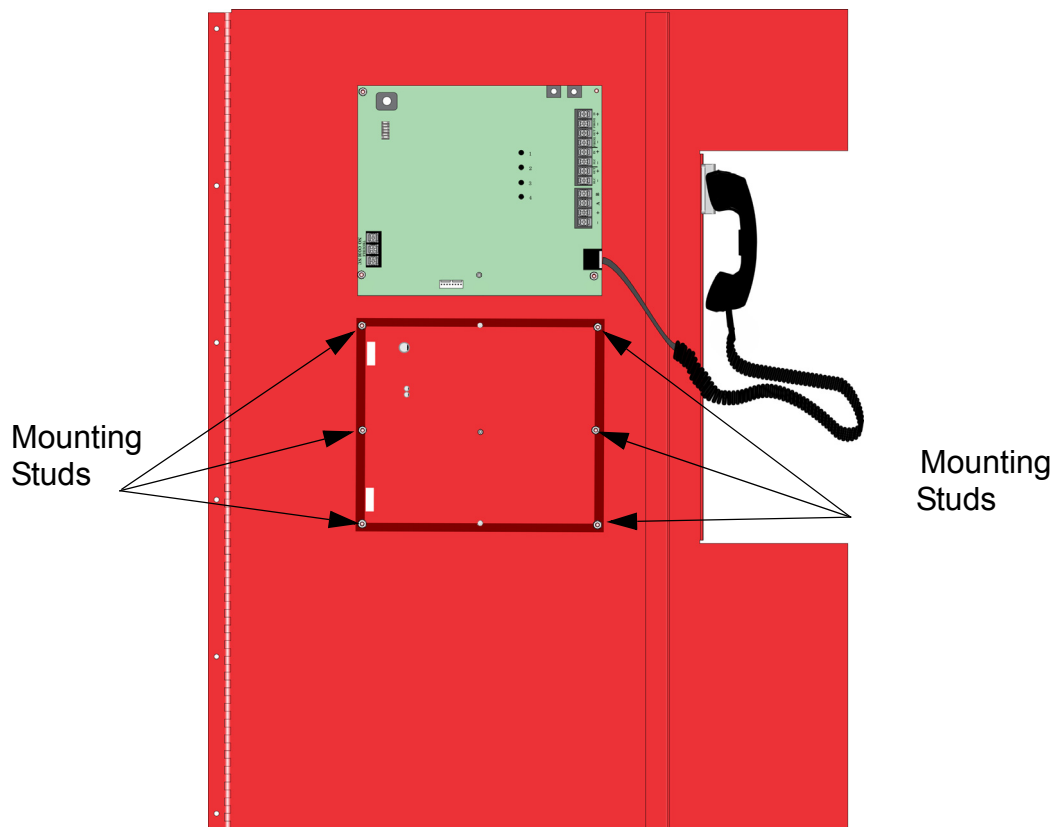

Figure 3-7 Mounting locations for the FFT-24
4. Mount the FFT-24 on the six mounting studs located on the inside of the dead front panel and secure using the nuts removed from the blank plate. See Figure 3-7.